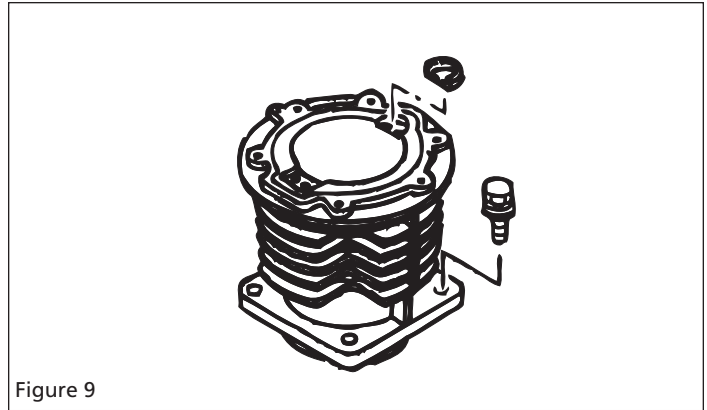

Figure 9
1. Remove cylinder head and valve set. Pay attention not to lose semicircular (black plastic) seat inserted at top surface of cylinder (see Figure 9).